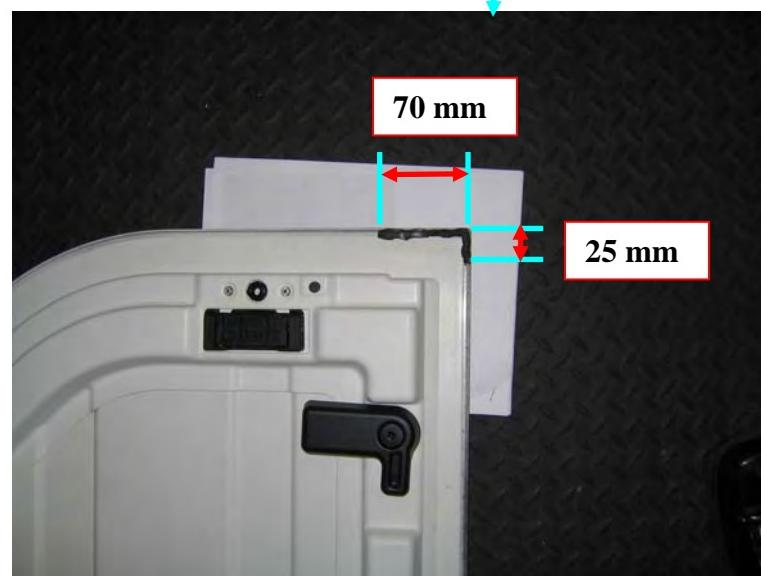

Figure 27
- Add 4mm diameter **butyl**, (68027813AA) to rear inboard corner groove (Figure 27)